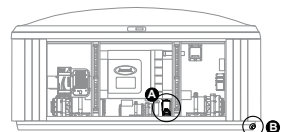

Figure 13.2e
4. Locate one of the two drains that you would like to use, Figure 13.2e and 13.2f. Either the Quick Drain (A) or the 3/4" drain valve (B). Once you choose a draining method, follow the procedures for that method.